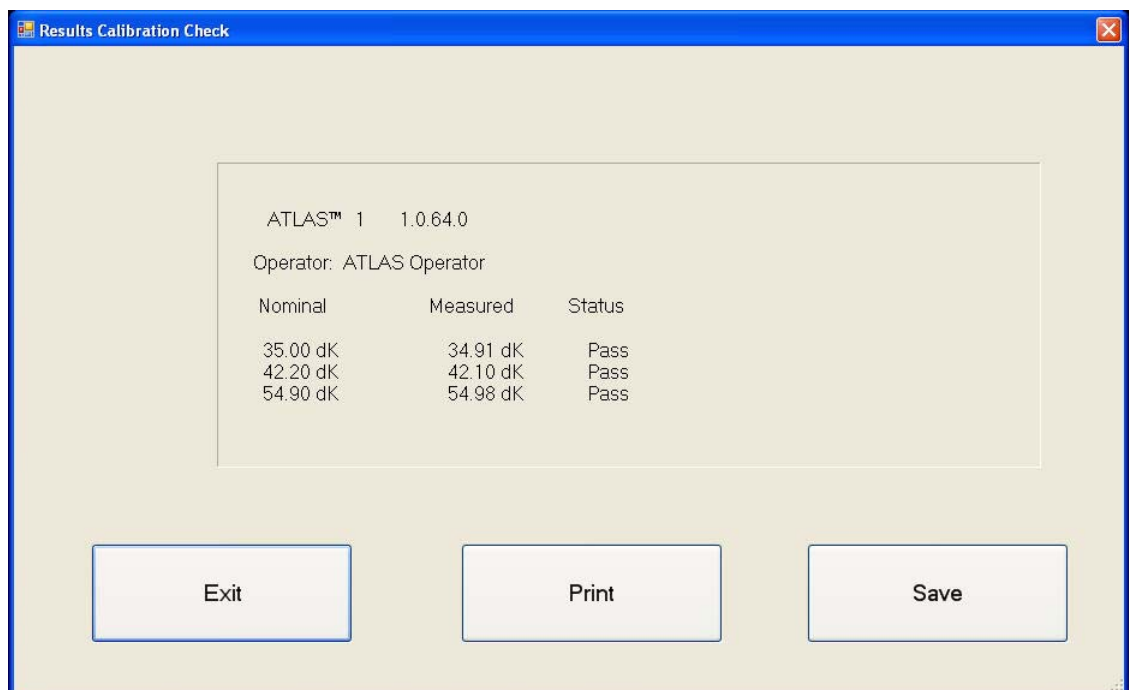

Figure H-5 Calibration Check—Results
7. When you have finished capturing images for all three spheres, a dialog appears showing the final results of the calibration test (Figure H-5). If all three spheres report PASS then your ATLAS is providing accurate measurements. If a FAIL is reported for at least one of the spheres, try cleaning the sphere with a soft cloth and repeating the calibration check before calling Technical Support.